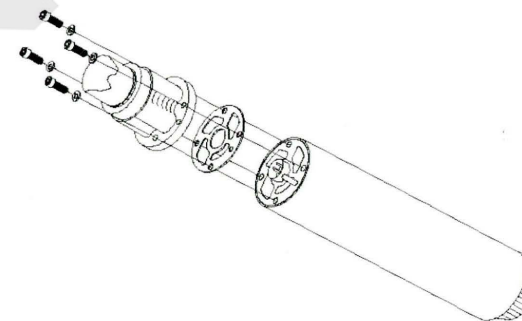

Figure 4: Aligning the FSP gasket
4. Install the FSP retaining bolts and lock washers (see Figure 4). Snug and then torque the bolts using a cross pattern. Torque to 7 f-lb. (11N\*m)